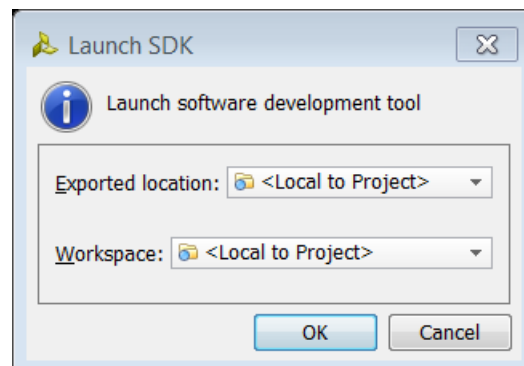

Figure 71: Launch SDK Dialog Box
4. Select **File < Launch SDK**. Make sure that both the **Exported location** and **Workspace** fields are set to **<Local to Project>** (FIGURE 71).